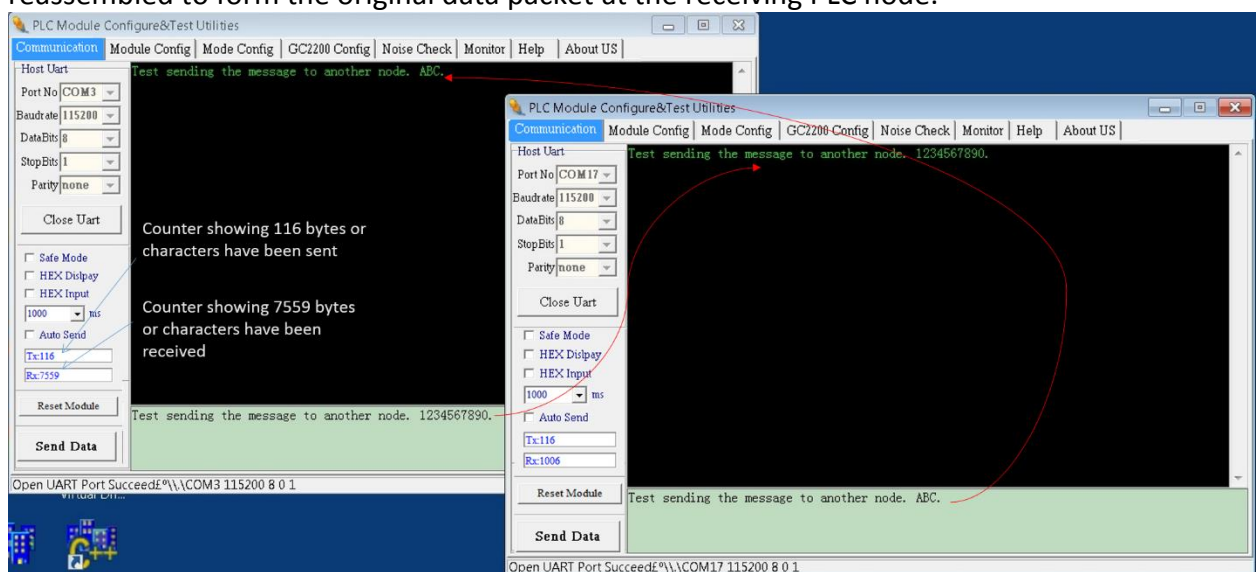

Figure 17 – PLC Device Point-to-Point Communications Demo
- d) In Figure 17, once the basic configurations are set as in “Demo & Evaluation of Simple Broadcast Communications” section in page 23 from 4.1.a to 4.1.c, you may input any data in the bottom green window under the “Communication” tab. The data can be in character (default) or HEX form (check HEX Display and HEX Input). Enter a message in the green box. The message will be sent to the other device as shown in the other GUI after clicking “Send Data”. The maximum standard data byte length per data packet is 72 bytes. However, it is highly recommended to use smaller data packets if possible, because longer data packets may have a higher chance of “packet loss” during transmission. When sending long data packets exceeding 72 bytes (up to 512 bytes), such as in ModBus, the device firmware will automatically break the long packet into multiple packets of up to 72 bytes without user intervention. These packets will then be reassembled to form the original data packet at the receiving PLC node.